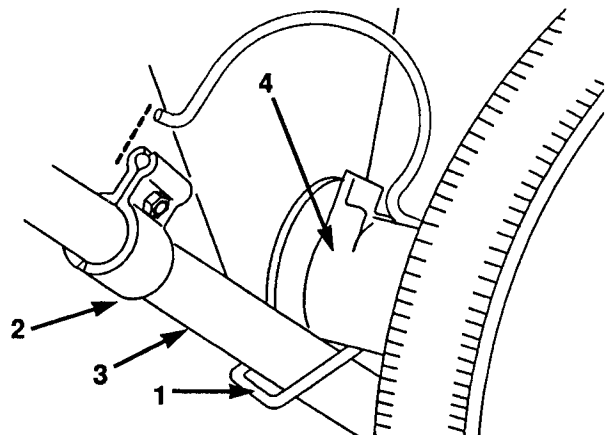

Figure 98
- B. Place the right-hand hold-down spring under the axle support and hook it under the mower handle (Fig. 98).
- C. Rotate the hold-down spring over the axle support and toward the clamp (Fig. 98). Now move the clamp so its back edge lines up with the end of the hold-down spring and secure the clamp in place by tightening the lock nut.